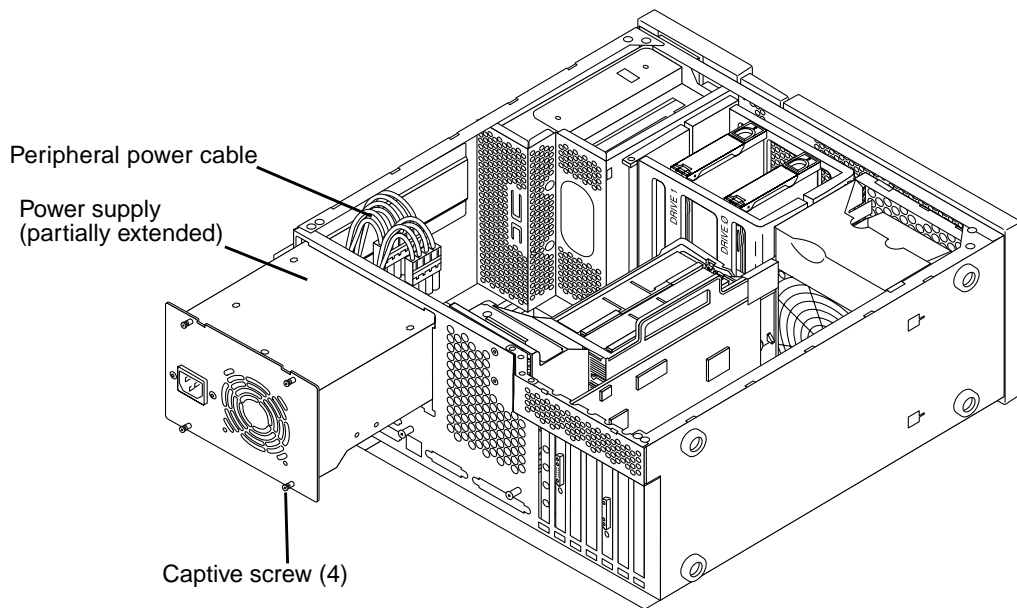

FIGURE 1-1 Removing the Power Supply
5. Remove the power supply as follows (FIGURE 1-1):